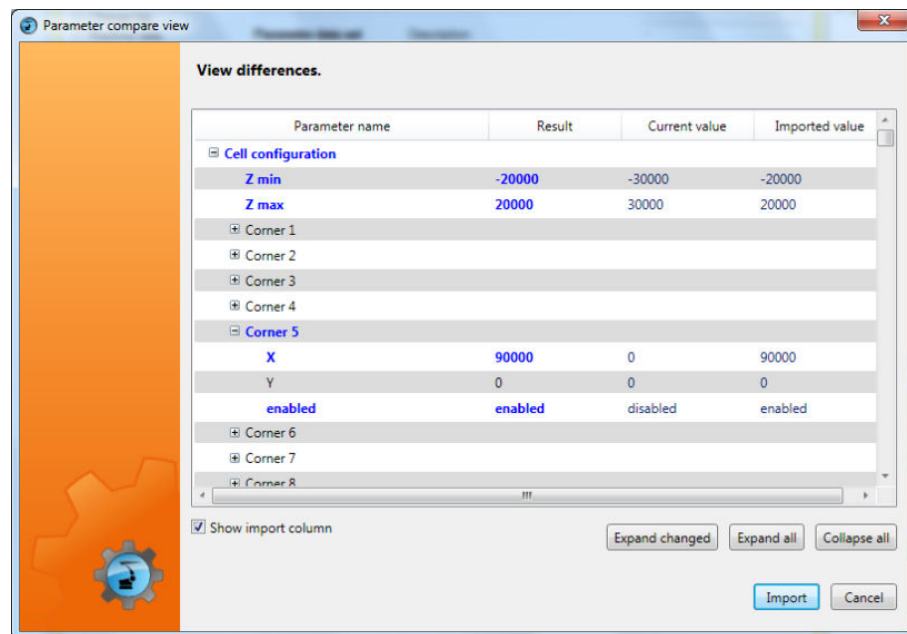

Fig. 8-3: Example: Displaying the differences
7. If there are no errors: the differences between the existing values and those to be imported are displayed in the Import window (>>> Fig. 8-3).